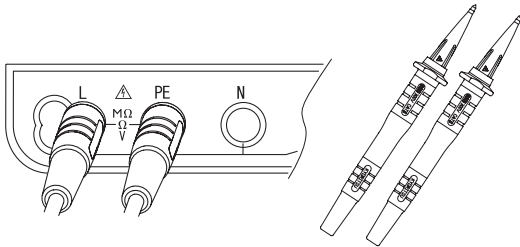

Fig. 35
2. Insert the Test Leads into the instrument. (Fig.35)